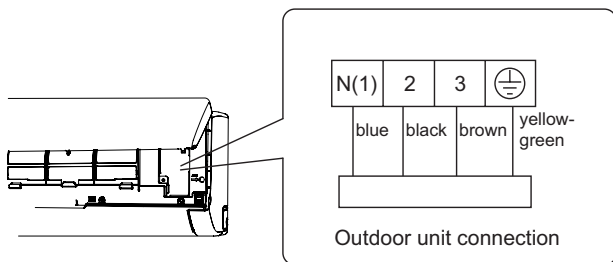

Fig. 13
- (3) Remove the wire clip; connect the power connection wire to the wiring terminal according to the color; tighten the screw and then fix the power connection wire with wire clip.(As show in Fig.13)